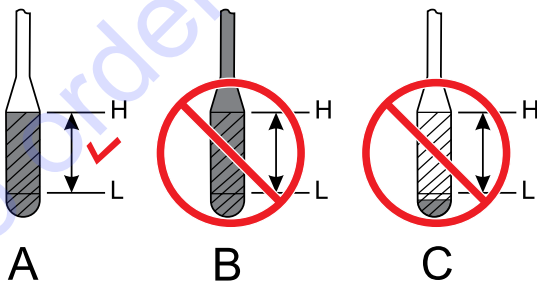

Figure 31. Engine Oil Dipstick
3. Reinsert the dipstick, then remove the dipstick from its holder. Check the oil level shown on the dipstick (Figure 31).